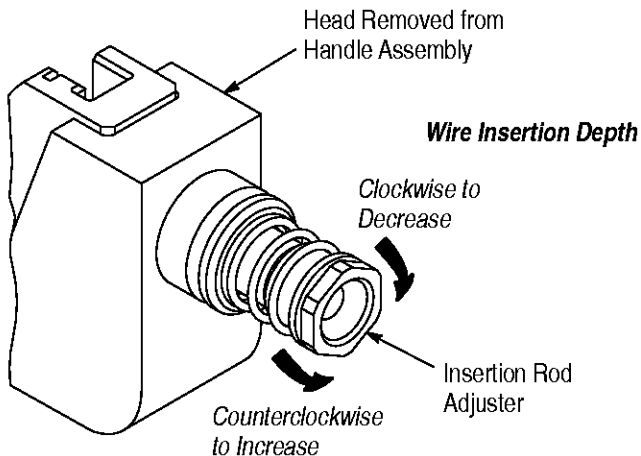

Figure 7
2. If the conductors are too deep in the contact slots, turn the insertion rod adjuster *clockwise*. A $\frac{1}{6}$ -revolution will decrease the wire insertion depth by approximately 0.20 mm [.008 in.]. If the conductors are not deep enough in the contact slots, turn the adjuster *counterclockwise*. A $\frac{1}{6}$ -revolution will increase the wire insertion depth by approximately 0.20 mm [.008 in.]. See Figure 7.